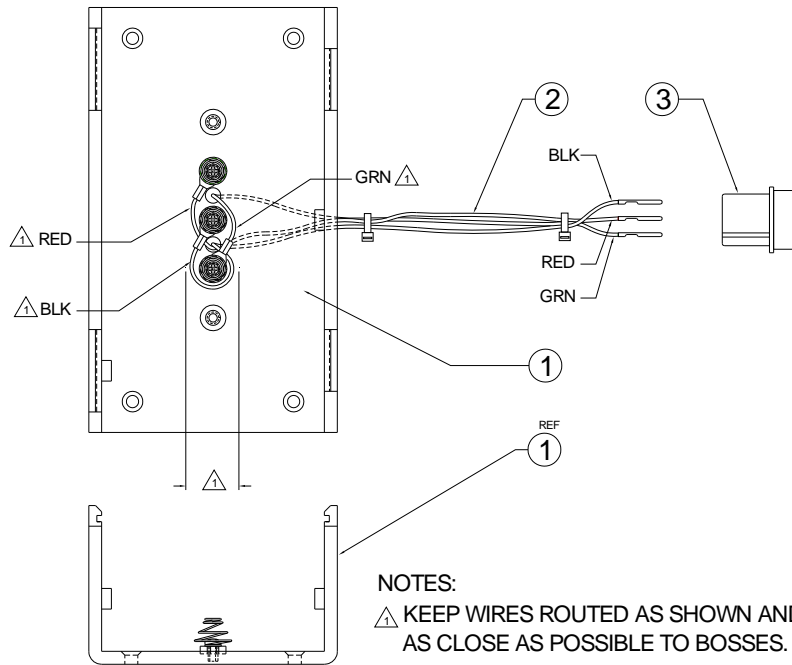

FIGURE 4
1. Mount battery pack base (Item 1, Figure 4) on test set panel with the 4 (each), 6-32 x ½ L flat head screws and 4 (each) 6-32 self-locking nuts provided.
3. Feed battery pack base harness leads (Item 2, Figure 4), without the connector (Item 3, Figure 4) attached (as supplied) through center holes (A & B). Re-attach connector.